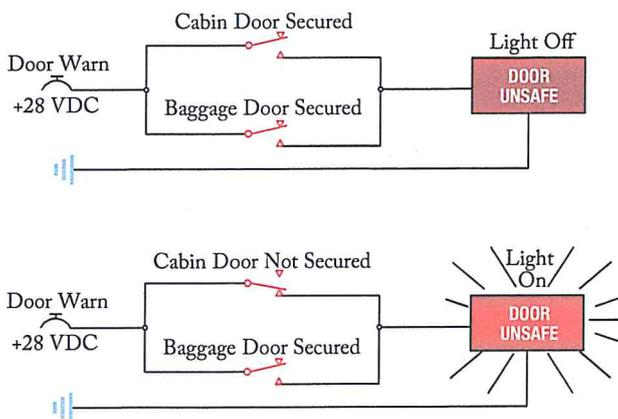

Figure 1-95. Simplified circuit that illustrates OR logic.
**Figure 1-95** is a simplified circuit that illustrates the OR logic. The example used is a "DOOR UNSAFE" annunciator. Let's say in this case that the plane has one cabin door and a baggage door. In order for the annunciator light on the master warning panel to extinguish, both doors must be closed and locked. If any one of the doors is not secured properly, the baggage door OR the cabin door, then the "DOOR UNSAFE" annunciator will illuminate. In this case, two switches are in parallel with each other. If either one of the two switches is closed, the light bulb will light up. The lamp will be off only when both switches are open.